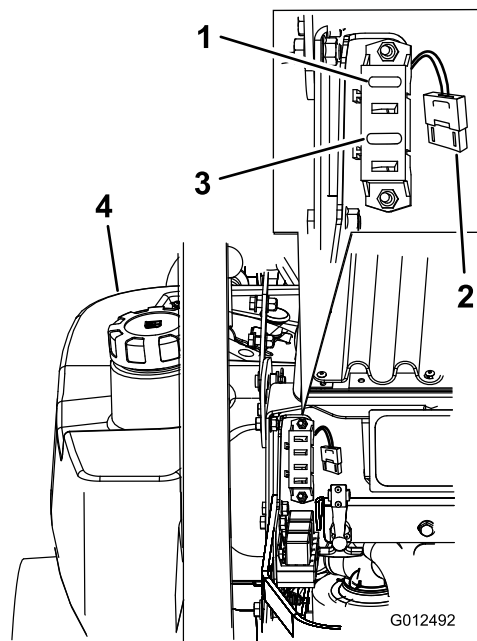

Figure 70
1. Unlatch the engine hood and raise the engine hood to gain access to fuse holder (Figure 70).
3. Install a new fuse (Figure 70).